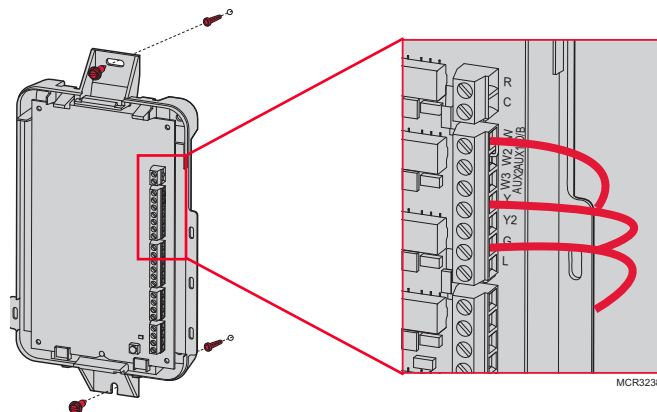

Fig. 9.
2. To wire the EIM, strip 1/4" insulation, then insert wires (see Fig. 9). For wiring diagrams, see "Wiring" beginning on page 135.